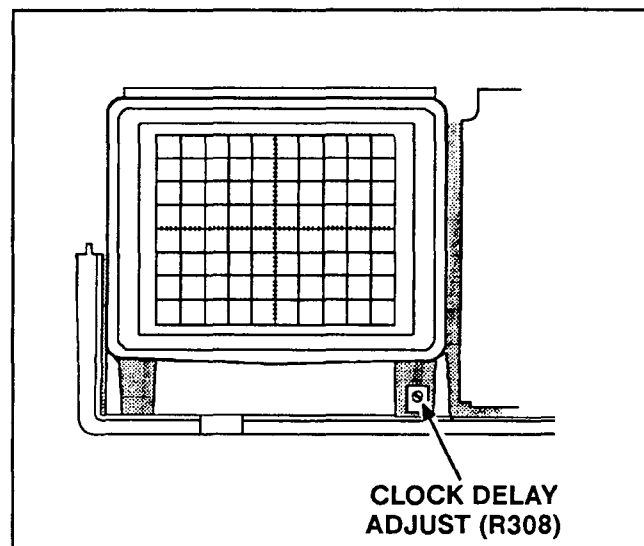

Figure 5-4. Clock Delay adjustment.
- d. **ADJUST–CLOCK DELAY (R308)**, located below the front of the CRT (see Figure 5-4), until the trigger position indicator (+) remains within the center two horizontal divisions (an occasional jump outside the center divisions may occur).